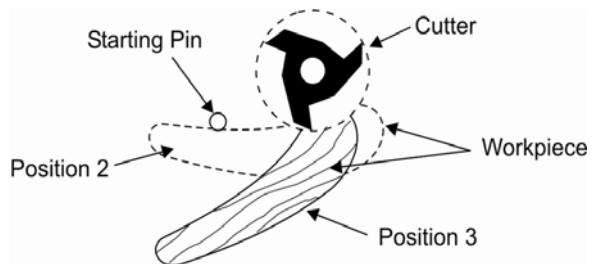

Figure 46
- After the cut has been started, the work is swung free of the starting pin and only rides against the collar (Figure 46). Always feed against the cutterhead rotation.